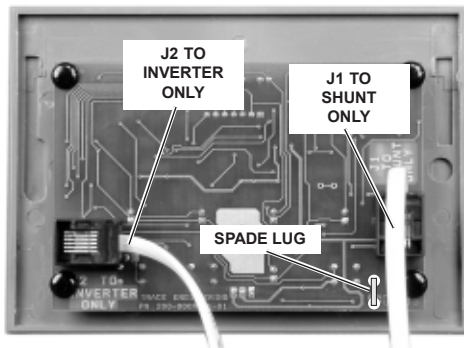

Figure 2-3
- Connect the communications cable (from the shunt) to the "J1 TO SHUNT ONLY" jack on the TM500A. See Figure 2-3.